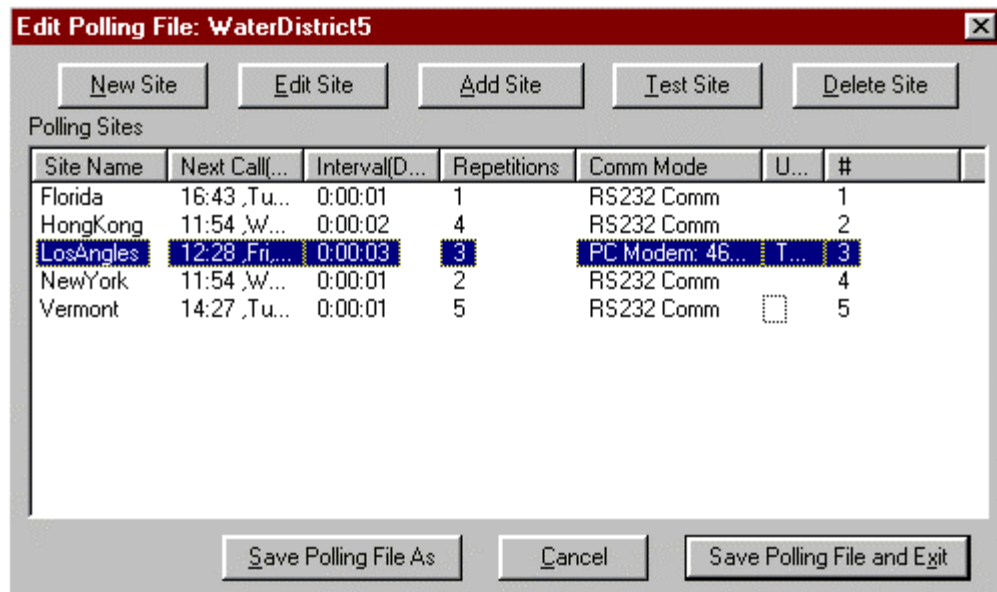

Figure 4.1.3b Edit Polling File Dialog with Selection
- 5) Test Site - Selection of test site immediately activates polling for the selected site. Figure 4.1.3b illustrates selection of a site. Once the site is activated for polling, the same site configuration options are active, except for the options selected in the Time Interval Tab Dialog.